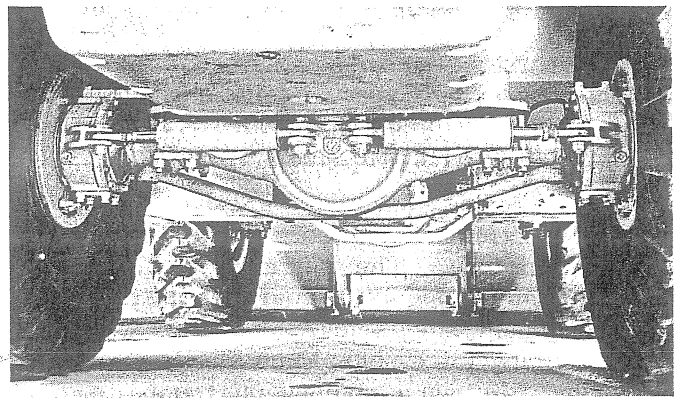

Fig. 2 - Rear Drive Steer Axle
- (d) Reconnect brake lines and bleed brakes. Fig. 2 shows a view of the rear drive steer axle installed.